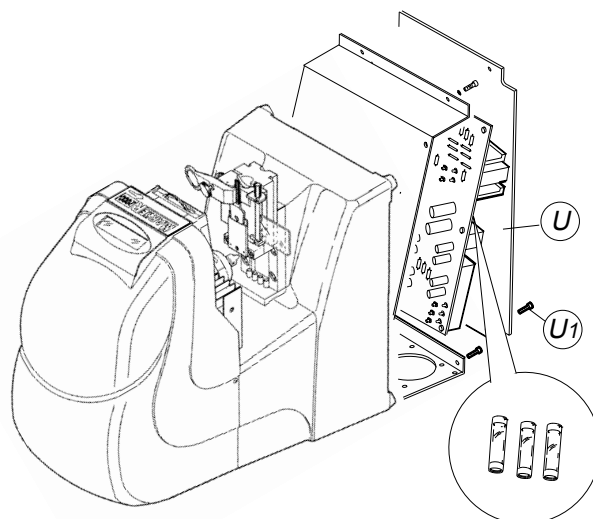

Fig. 39
- 2) turn the machine on its back and remove the four screws (U1) securing the bottom plate (U), which can then be taken off (fig. 39).
- 2) turn the machine onto its back, remove the four screws securing the bottom plate (U) and remove (fig. 39).
- 3) disconnect the Y sensor connector (9) (page 44).
- 4) stand the machine upright again, remove the cover (Q) (ch.9.4) and place next to the machine, without disconnecting the display connector.